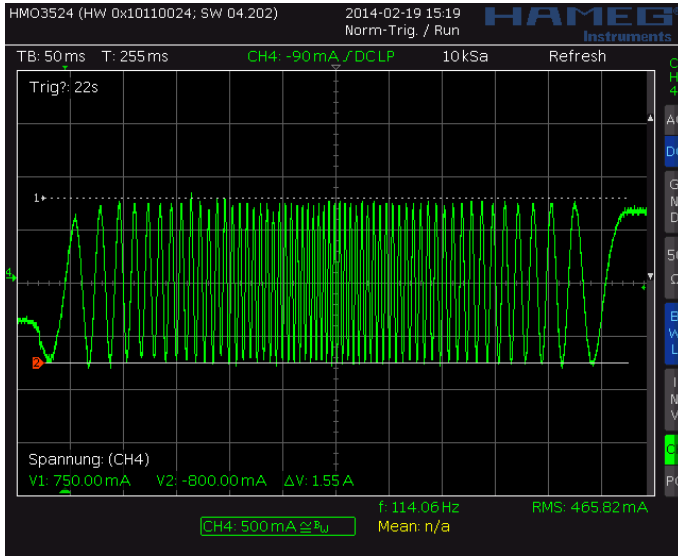
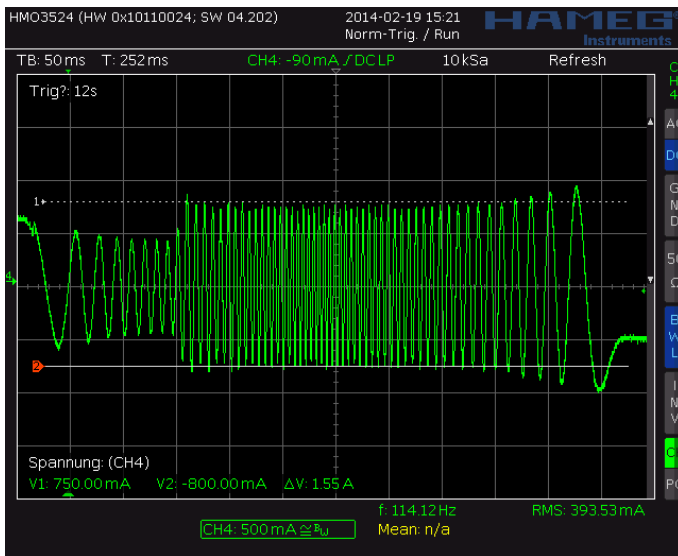
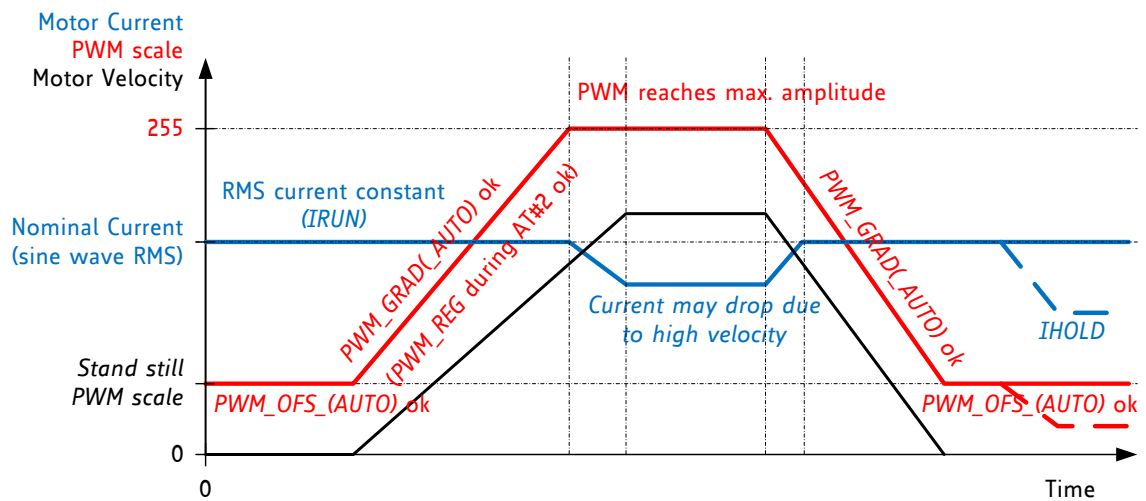

Figure 6.3 Scope shot: good setting for PWM\_REG
Figure 6.4 Scope shot: too small setting for PWM\_REG during AT#2
Figure 6.5 Successfully determined PWM\_GRAD( AUTO) and PWM\_OFS( AUTO)
In stealthChop voltage PWM mode, the autoscaling function ( $pwm\_autoscale = 1$ ,  $pwm\_auto\_grad = 1$ ) regulates the motor current to the desired current setting. Automatic scaling is used as part of the automatic tuning process (AT), and for subsequent tracking of changes within the motor parameters. The driver measures the motor current during the chopper on time and uses a proportional regulator to regulate  $PWM\_SCALE\_AUTO$  in order match the motor current to the target current.  $PWM\_REG$  is the proportionality coefficient for this regulator. Basically, the proportionality coefficient should be as small as possible in order to get a stable and soft regulation behavior, but it must be large enough to allow the driver to quickly react to changes caused by variation of the motor target current (e.g. change of VREF). During initial tuning step AT#2,  $PWM\_REG$  also compensates for the change of motor velocity. Therefore, a high acceleration during AT#2 will require a higher setting of  $PWM\_REG$ . With careful selection of homing velocity and acceleration, a minimum setting of the regulation gradient often is sufficient ( $PWM\_REG=1$ ).  $PWM\_REG$  setting should be optimized for the fastest required acceleration and deceleration ramp (compare Figure 6.3 and Figure 6.4). The quality of the setting  $PWM\_REG$  in phase AT#2 and the finished automatic tuning procedure (or non-automatic settings for  $PWM\_OFS$  and  $PWM\_GRAD$ ) can be examined when monitoring motor current during an acceleration phase Figure 6.5.